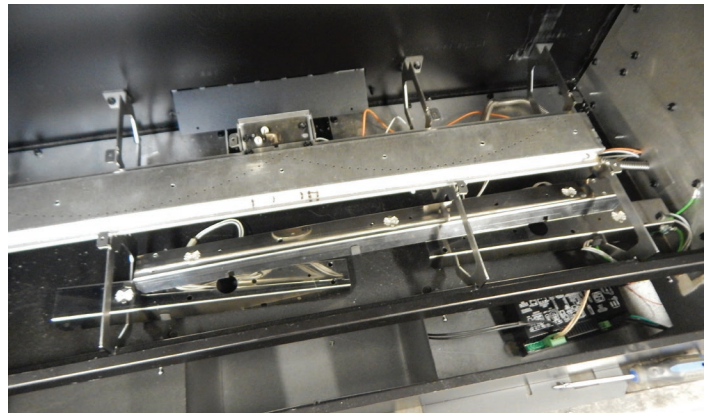

Figure 8
- Continue installing the Center Light bracket through the center/right burner bracket until there is enough room to feed the Left Light Bracket through the center/left burner bracket. Shift the Left Light Bracket to the left so it rests in the left end burner bracket. **See Figure 8.**